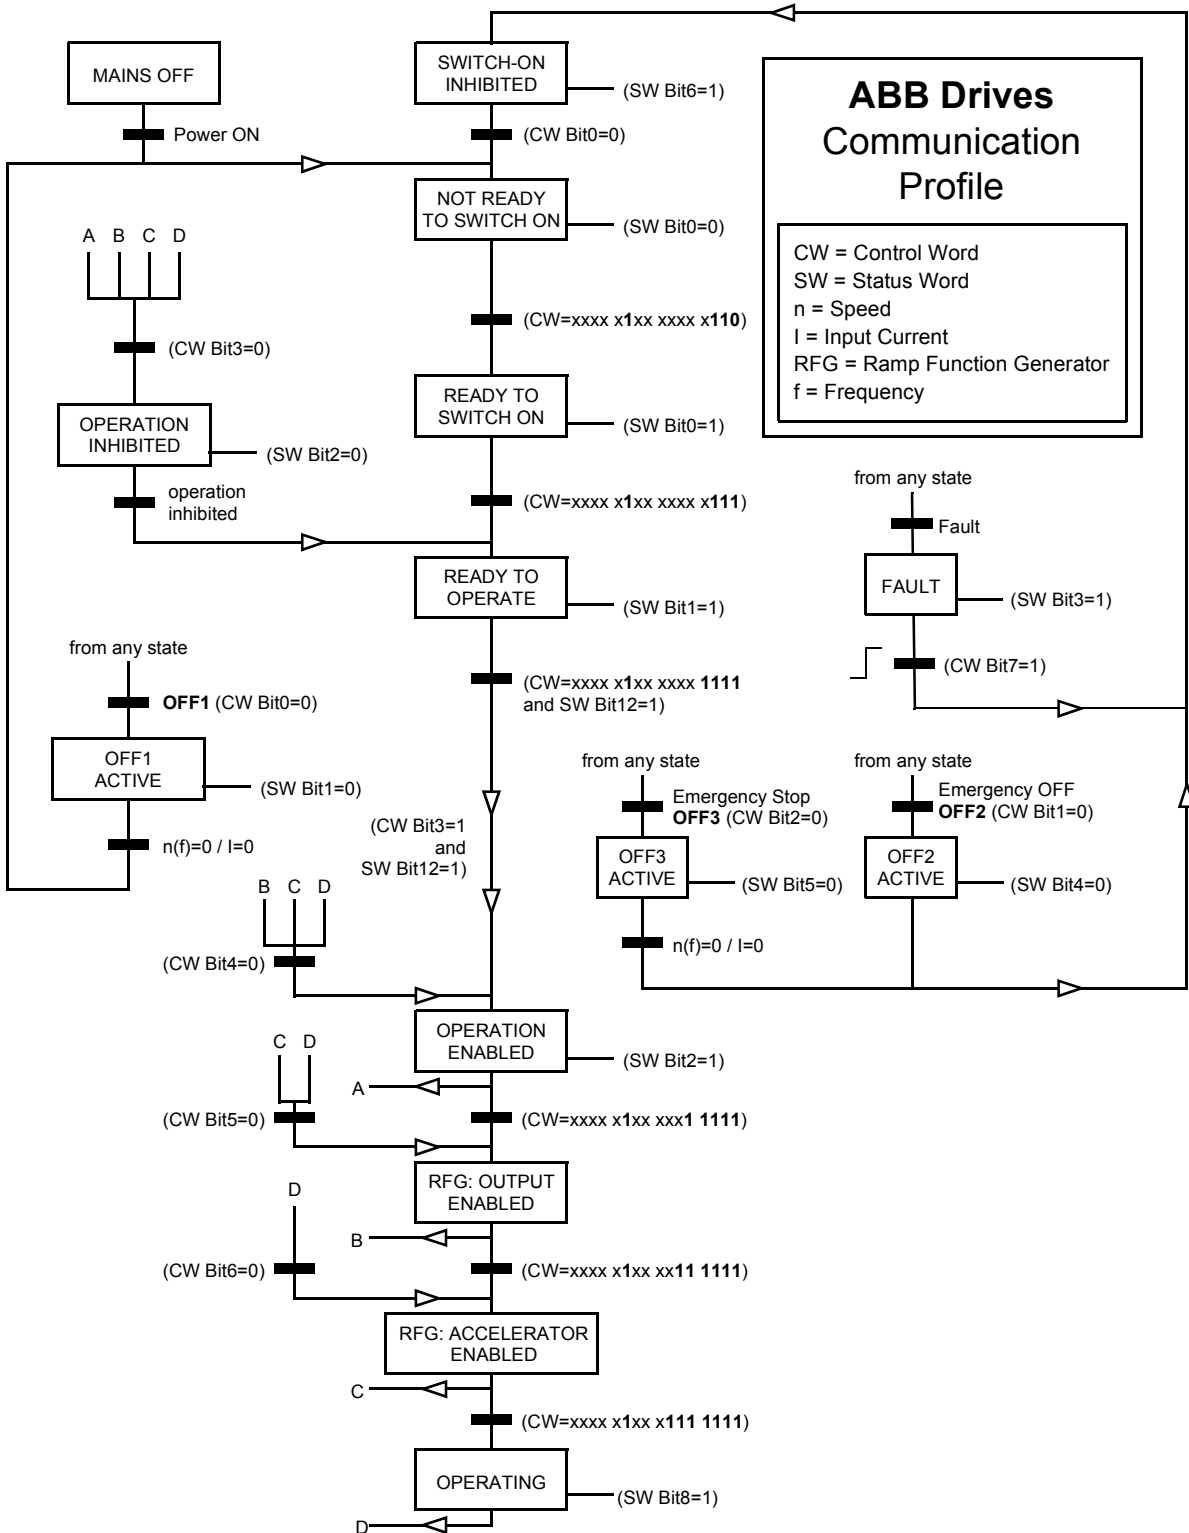

Figure 2 State Machine for the ABB Drives communication profile.
*Table 5 The Control Word (Actual signal 03.01) for the ABB Drives communication profile. The upper case boldface text refers to the states shown in Figure 2.*
*Table 6 The Status Word (Actual signal 03.02) for the ABB Drives communication profile. The upper case boldface text refers to the states shown in Figure 2.*